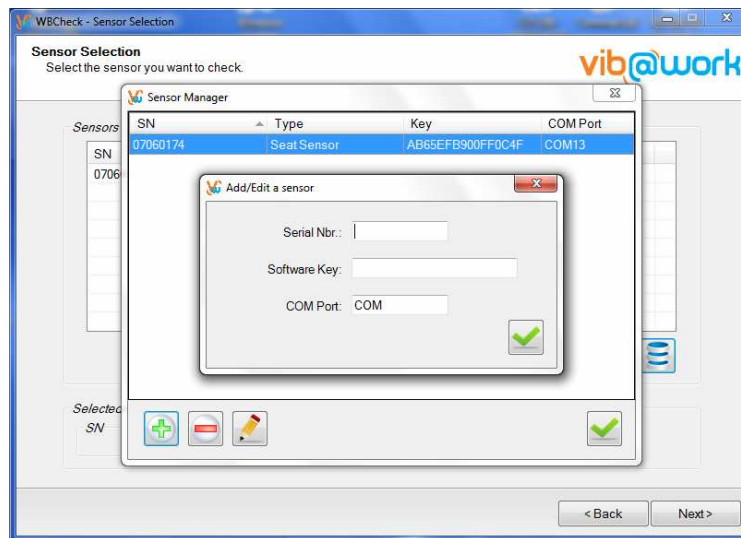

Figure 6: Adding a sensor
- Click on the  button to add a sensor. A new window is displayed (Figure 6) allowing you to enter the data relating to the sensor.